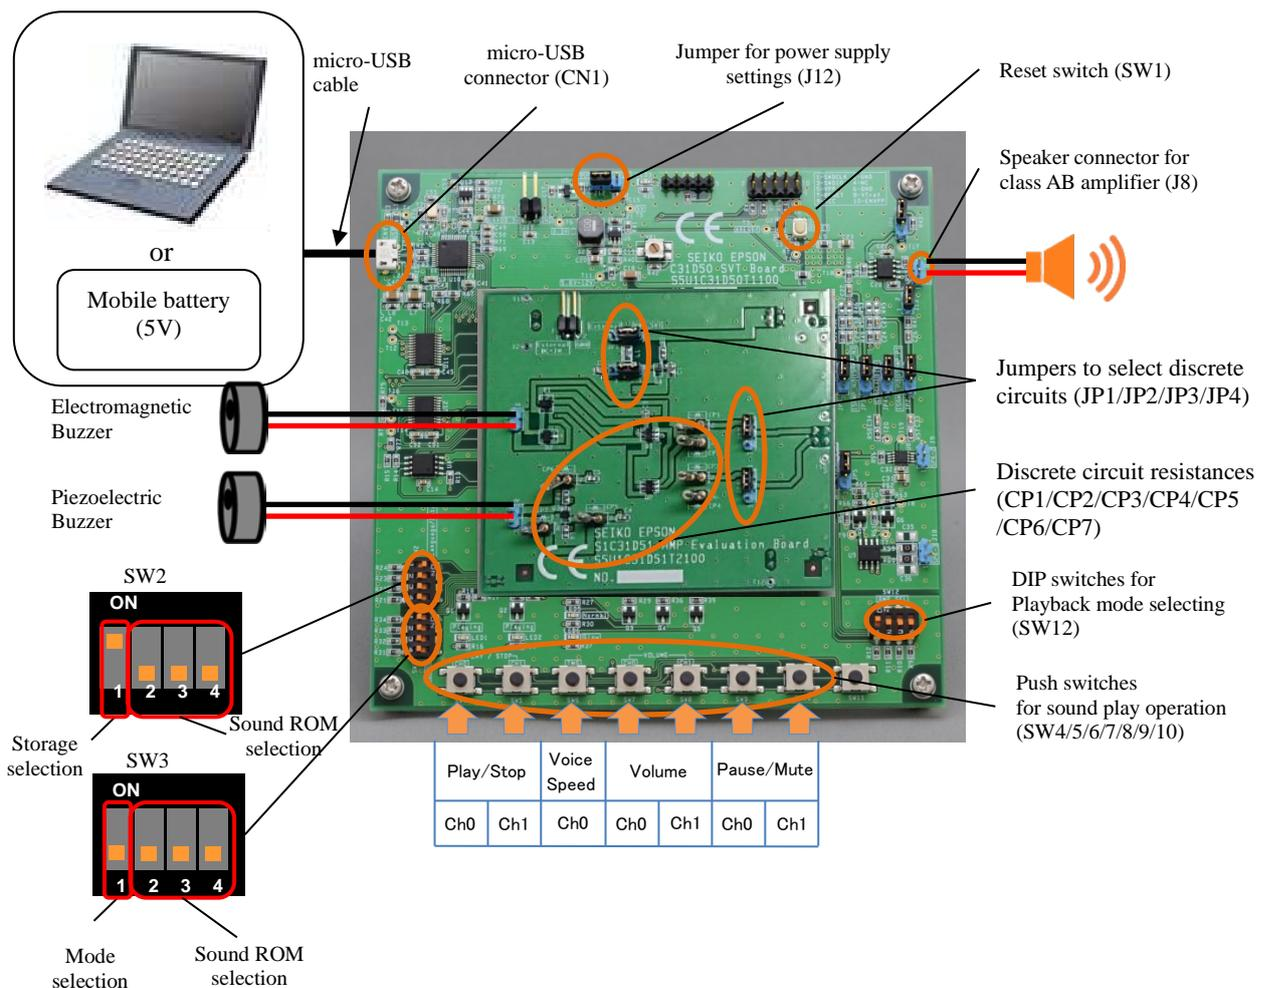

Figure 4.2.1 Layout of Main Parts (Sound Play Demo Mode)
8. Press the SW4(PLAY/STOP-CH0) and/or SW5(PLAY/STOP-CH1) to start the sound play. (Refer to Figure 4.2.1 and Table 4.2.1 for details of the sound play operation.)